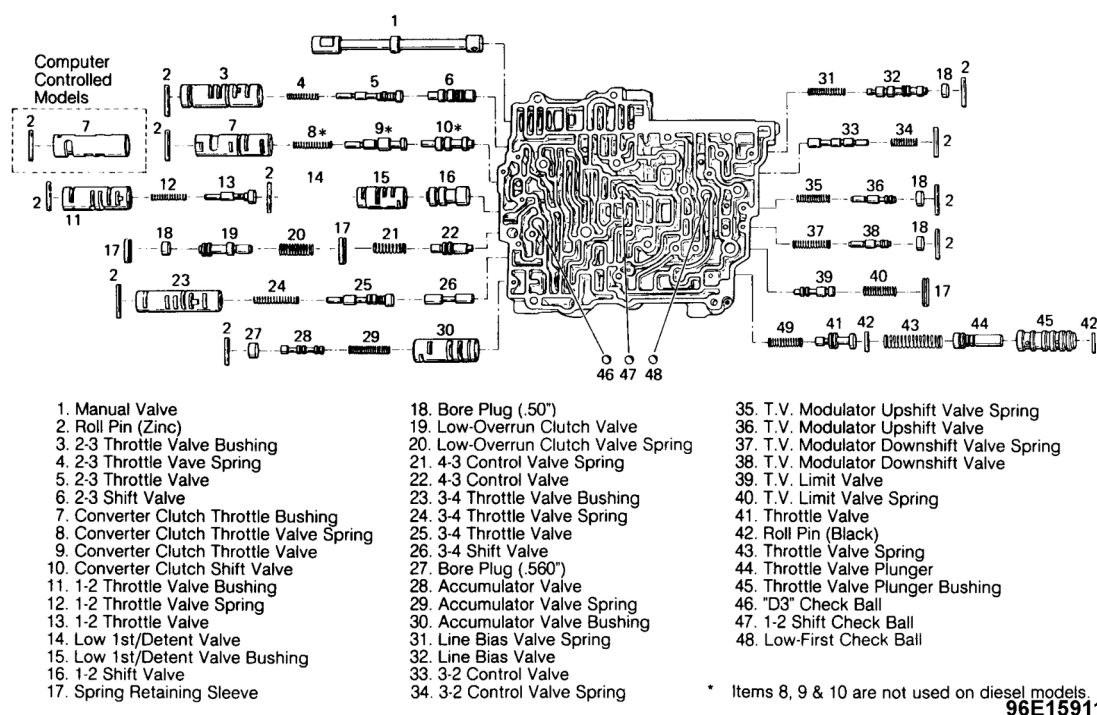

Fig. 34: Exploded View of Control Valve Assembly
Reassembly is reverse of disassembly procedure. Reassemble control valve assembly using exploded view as a guide. See **Fig. 34**.
7. Position the remaining 3 check balls in valve body. See **Fig. 34** . Retain with petroleum jelly. Remove alignment pins. Install valve body assembly making sure to align manual valve with detent lever.